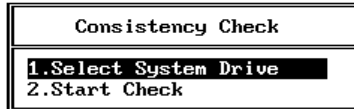

Figure 3-8. Consistency Check Menu
2. Choose **Select System Drive** from the Consistency Check menu (Figure 3-8).